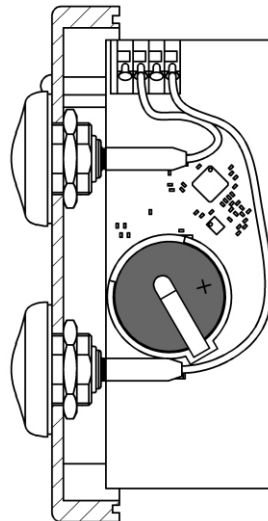

Fig. 2
- Remove the insulation foil between the battery and the contact of the battery holder (Fig. 2).
If you need to replace the battery, which is placed to the holder on the PCB (Fig. 2), unscrew and remove the top lid of the transmitter.